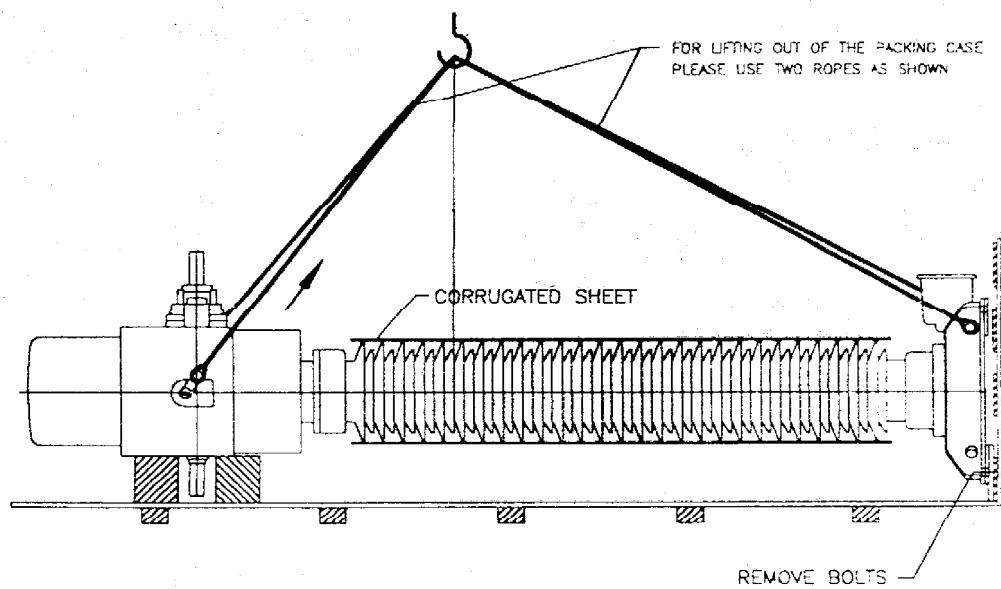

FIG.7
- For lifting the CT from packing case and keeping it on platform use two ropes as shown in the fig. 7 & 8